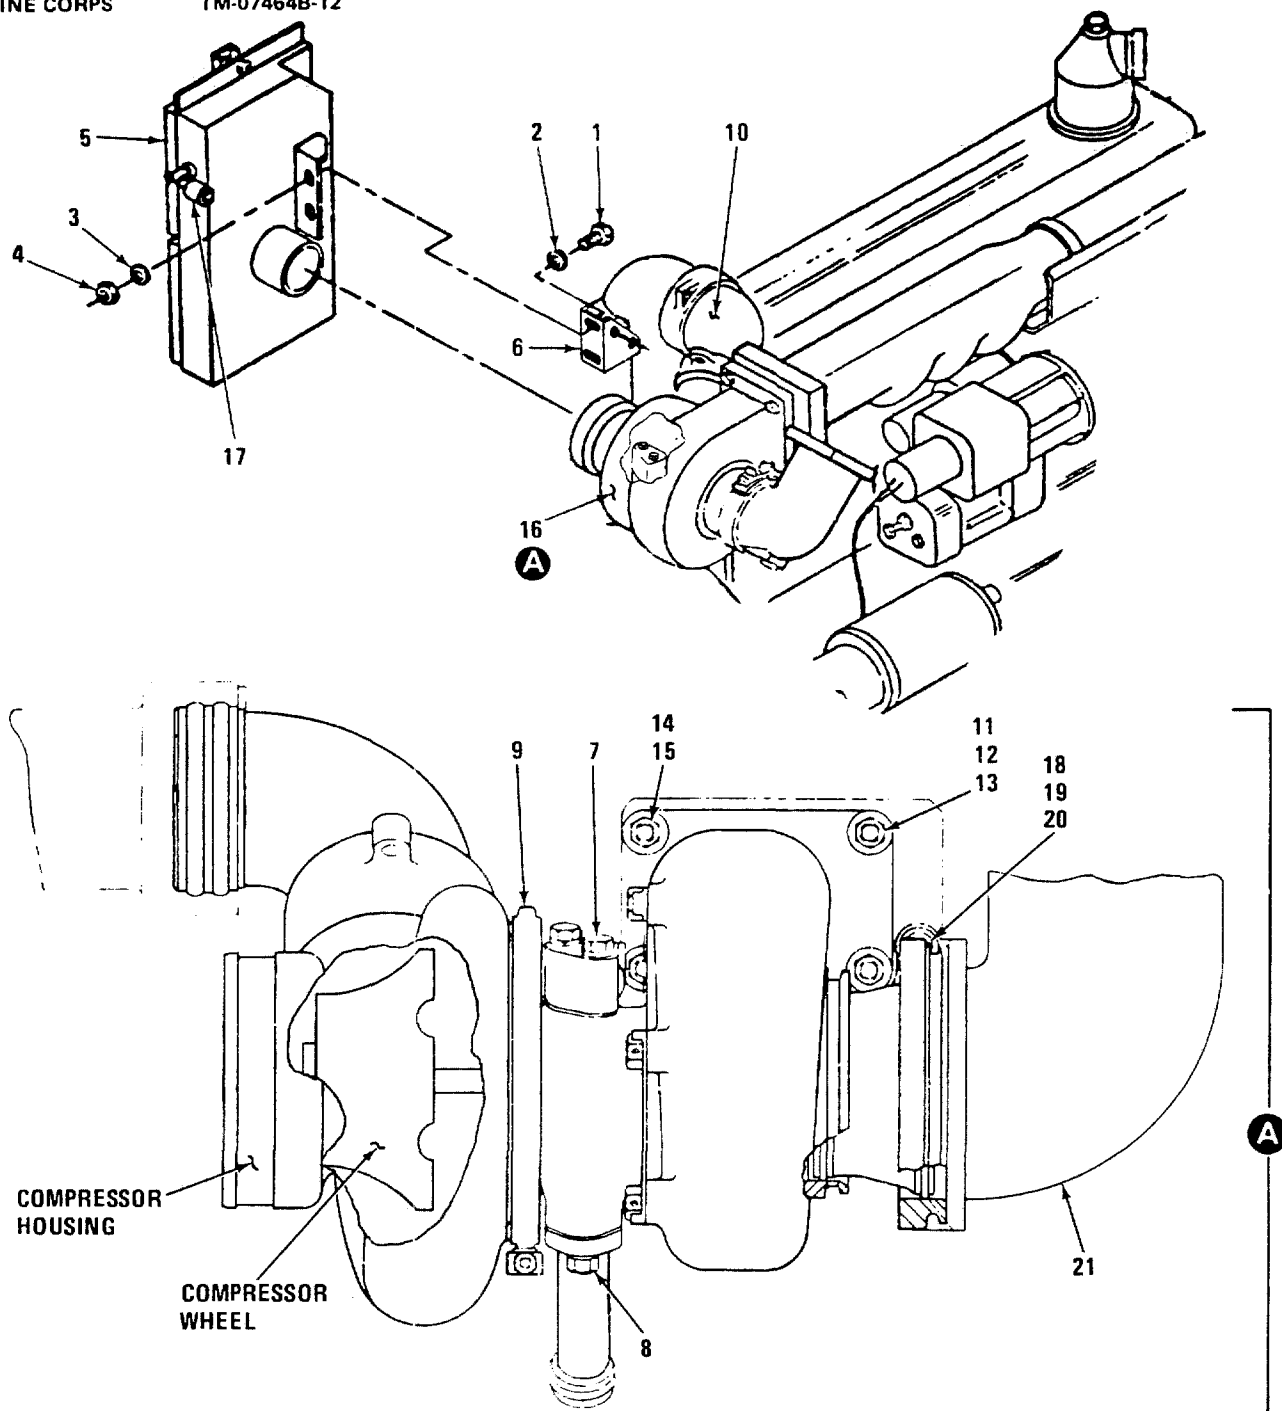

Figure 4-61. Turbocharger Replacement
(1) Operate engine at approximate rated output and listen for unusual turbocharger noise. Do not mistake whine heard during rundown for one that indicates impeller shaft bearing failure during operation. Other unusual noises can result from improper clearance between turbine impeller and turbine housing. If such noises are heard, replace turbocharger. For repair of turbocharger, refer to higher level maintenance.
(2) Remove air cleaner assembly (refer to paragraph 4-115) to inspect turbocharger impeller vanes.
(a) Remove two screws (1, figure 4-61), washers (2 and 3), and nuts (4) to free air cleaner assembly (5) from bracket (6).
(3) Inspect the turbocharger compressor wheel and housing for dirt (see figure 4-61). If the coating of dirt is light and even, cleaning the compressor wheel is not necessary. An uneven buildup of dirt will disturb the balance of rotating parts and lead to failure of the turbocharger. If the coating of dirt is uneven, excessive, or approaching the appearance of a layer which might flake off, cleaning is necessary. Refer to next higher level of maintenance.
(4) If turbocharger does not require replacement, install air cleaner assembly as follows: